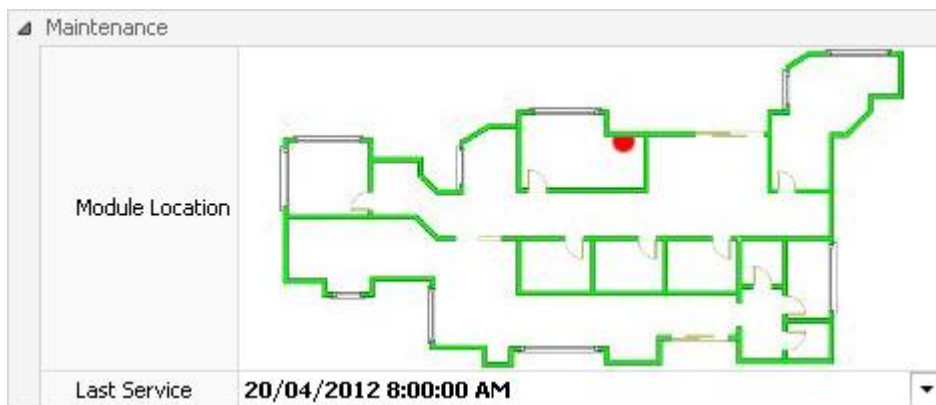

Figure 101
- Powered modules – Date & Time the last service / battery change. (Figure 101)
- All modules – Photo / map of physical location of modules. (Figure 101)